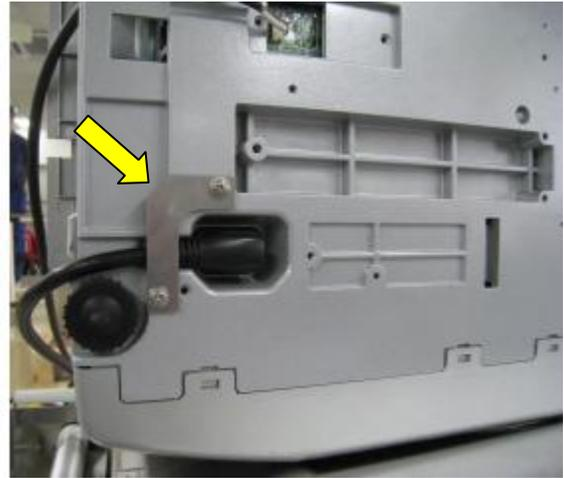

Figure 3.3. "L" Plate Securing Power Cord
- iv. Mount the "L" plate using two screws to secure the Uni-7 power cord. See Figure 3.3.